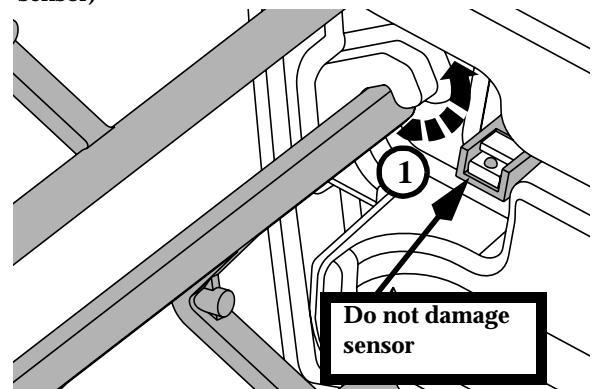

Figure 3
- ◆ Carefully remove the old media funnels by first removing the upper leg on both sides of the imager as shown in figure 3. The media funnels will flex without breaking. (**Warning: do not damage the indicated sensor**)